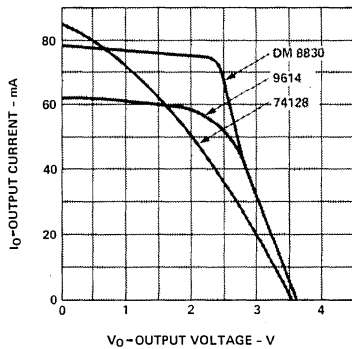
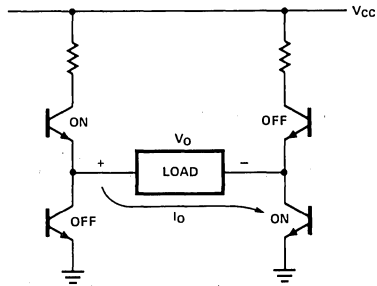
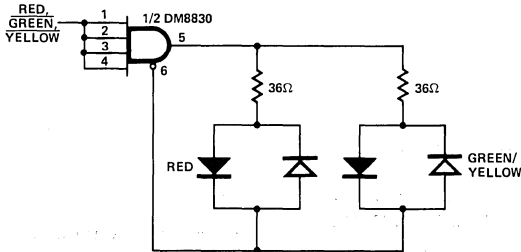

Figure 7. Typical Output Characteristics of Reversing Line Drivers.
Figure 8. Line Driver Equivalent Circuit.
Figure 9. Typical Line Driver Circuit; Approximately 20mA/LED Pair.
Line drivers designed to operate from a single 5V supply are typically specified to source or sink 40 mA. Figure 7 shows the typical output characteristics of three different line drivers connected so that one output sources current across a load and the current is sunk by another output. This circuit is shown in Figure 8. At 40 mA output current, the output voltage typically varies from 2.4V (74128) to 2.9V (DM 8830, 9614) for $V_{CC} = 5.0V$. A basic bicolor LED circuit is shown in Figure 9. Since a line driver can supply 40 mA, it is capable of driving two LED pairs.
- Derate maximum DC current above T_A = 50°C at 0.6 mA/°C per LED. This derating assumes worst case R_{θJ-A} = 600°C/W/LED. With an improved thermal design, operation at higher temperatures without derating is possible. See Figure 7.
- Derate maximum DC current above T_A = 70°C at 0.67 mA/°C per LED. This derating assumes worst case R_{θJ-A} = 600°C/W/LED. With an improved thermal design, operation at higher temperatures without derating is possible. See Figure 8.
- Derate maximum DC current above T_A = 37°C at 0.48 mA/°C per LED. This derating assumes worst case R_{θJ-A} = 600°C/W/LED. With an improved thermal design, operation at higher temperatures without derating is possible. See Figure 9.